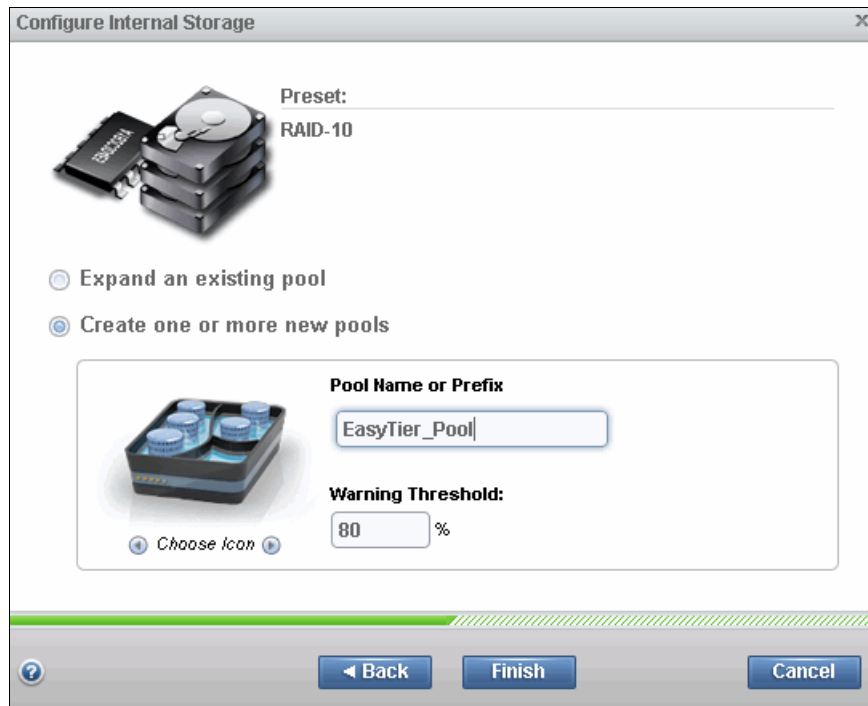

Figure 9-17 Creating a new pool
3. Select **Create one or more new pools**, and include the pool name or prefix. In this example scenario, we create a new Storage Pool named **EasyTier_Pool**, as shown in Figure 9-17.